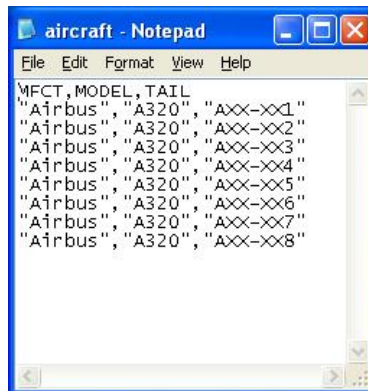

Figure 2.5 - Remove Aircraft no longer required
2. Once you open the .csv file (in Notepad) from the USB key folder you need to remove or add the aircraft manufacturer, model and tail number from every line that are no longer required or required. See figure 2.5 below: